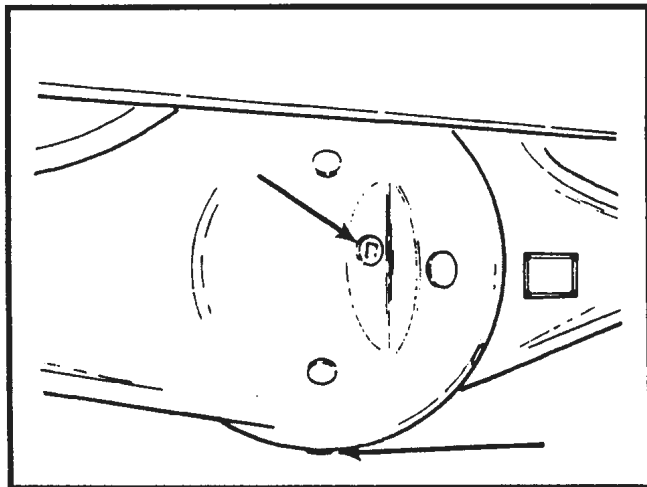

Figure 11-3. Axle Differential Fill and Drain Plugs
1. Remove the fill and drain plugs from the differential and allow the oil to drain out. Be careful; hot oil and/or components can burn. Refer to Figure 11-3.